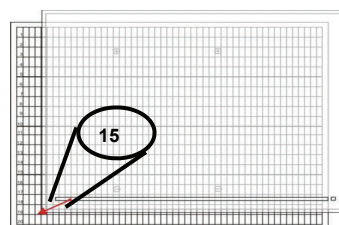

Fig. 5
8. Place the gel onto the cooling plate: the IPG strip-slot towards the cathode, the cathodal edge of the IPG strip-slot matching line "15" (fig 5).